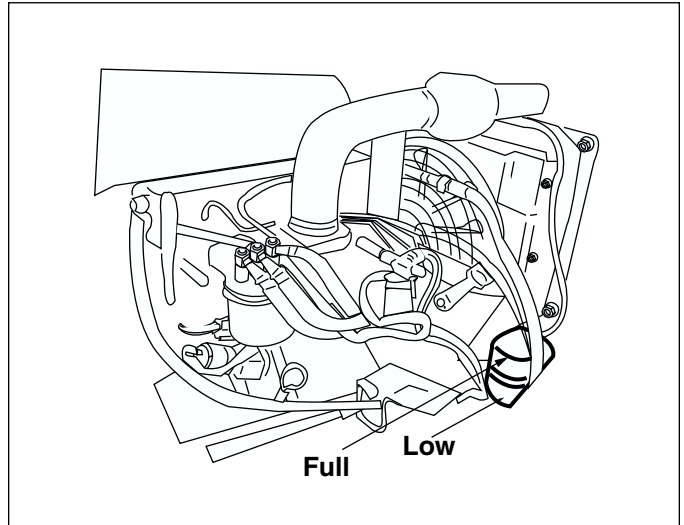

Figure 4-9. Checking Coolant Level
2. Check the coolant level in the expansion reservoir (Figure 4-9).